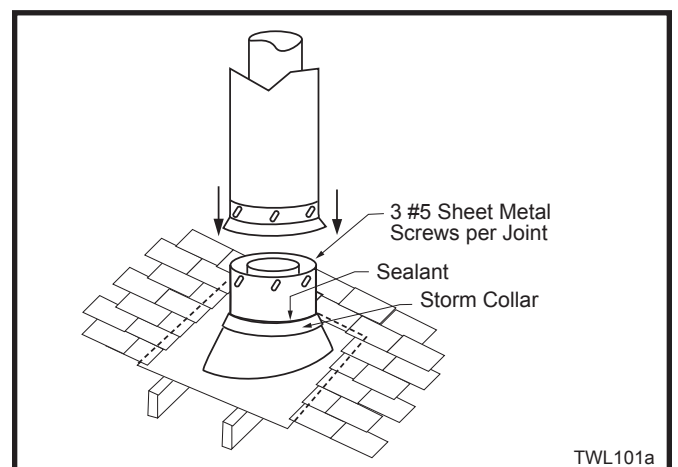

Fig. 35 Roof flashing.
7. Install roof support (Fig. 35 & 36) and roof flashing making sure upper flange is below the shingles. (Fig. 35)
8. Install appropriate pipe sections until the venting is above the flashing. (Fig. 35)
! The enlarged ends of the vent section always face downward. (Fig. 35)